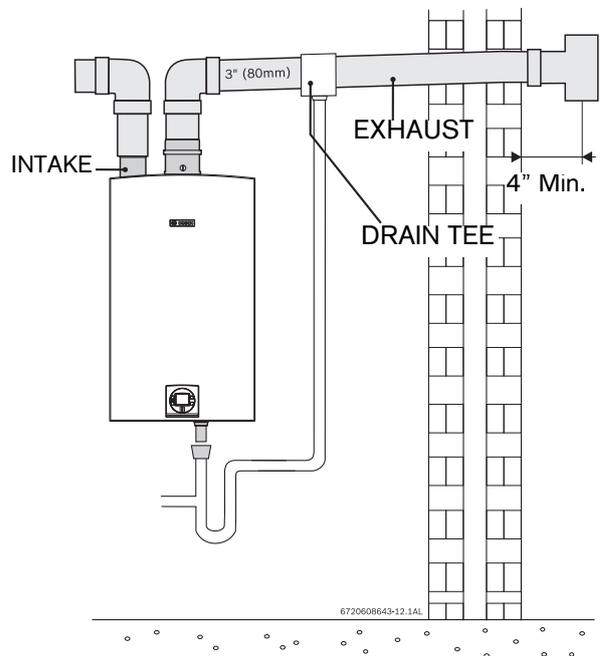

Fig. 14 Horizontal venting system (single pipe penetration*)
- ▶ Attach the combustion air inlet accessory to the top of the unit Fig. 14 (position 2) using the 3 screws and gasket provided, and install 3" air intake pipe over the accessory.